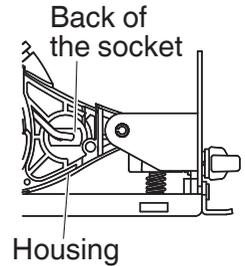

Fig. 28
- (2) Push the back of the socket, and remove the socket and the light bulb together from the handle cover (**Fig. 28**).